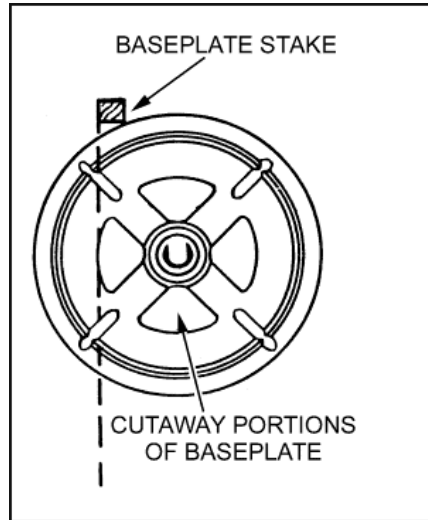

Figure 4-7. Baseplate placed against baseplate stake.
- a. The gunner places the outer edge of the baseplate against the baseplate stake so that the left edge of the cutaway portion of the baseplate is aligned with the right edge of the stake (Figure 4-7). He rotates the socket so that the open end is